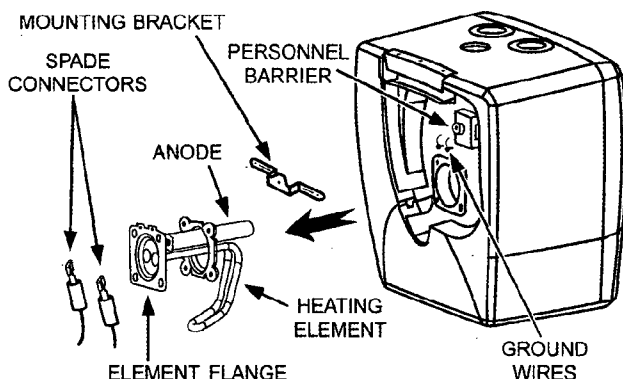

FIGURE 10.
3. Remove the two screws from the mounting bracket, see Figure 10, being careful not to drop the screws into the unit, as they will be difficult to retrieve. Remove bracket and set screws aside.
17. Replace the mounting bracket with the center rise facing outward and the screw hole up, see Figure 10.